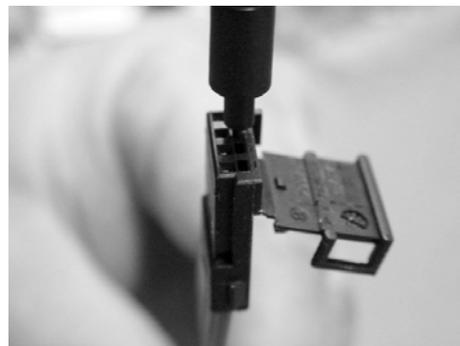

Figure 3
4. Remove the contact from the connector by pulling on the wire attached to it. See Figure 3.